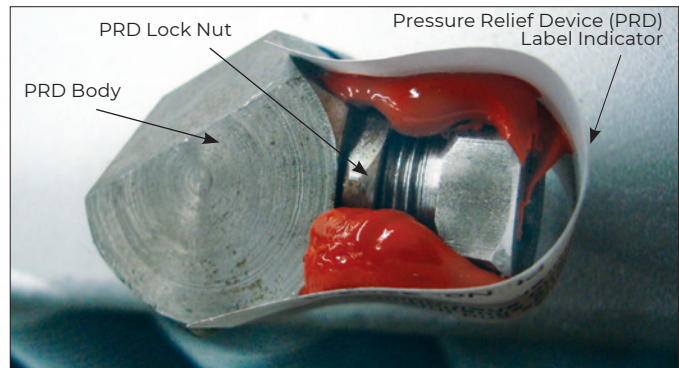

Figure 1
- Pressure relief device for signs of leakage. See Figure 1, page 5 and refer to A.3 Annual, page 4, for further instructions.
9. Venting pressure of the Pressure Relief Device (PRD) is factory set. Do not tamper with lock nut. (See Figure 1, page 5.)